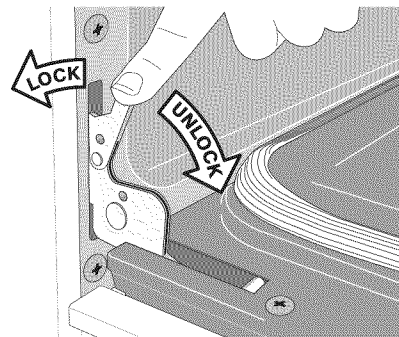

Figure 31: Door hinge locks
2. Pull the door hinge locks on both left and right door hinges down from the oven frame completely toward the oven door (Figure 31). A tool such as a small flat-blade screwdriver may be required.
4. Push the door hinge locks up toward and into the oven frame on both left and right oven door hinges to the locked position (Figure 31).